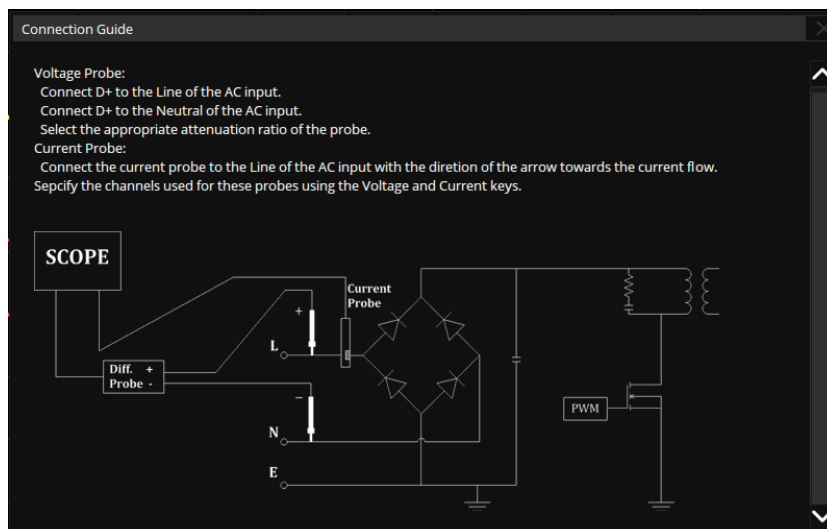

Figure 19.2 Connection Guide
5. Touch **Connection Guide** to display a diagram illustrating the procedure setup. See figure 19.2